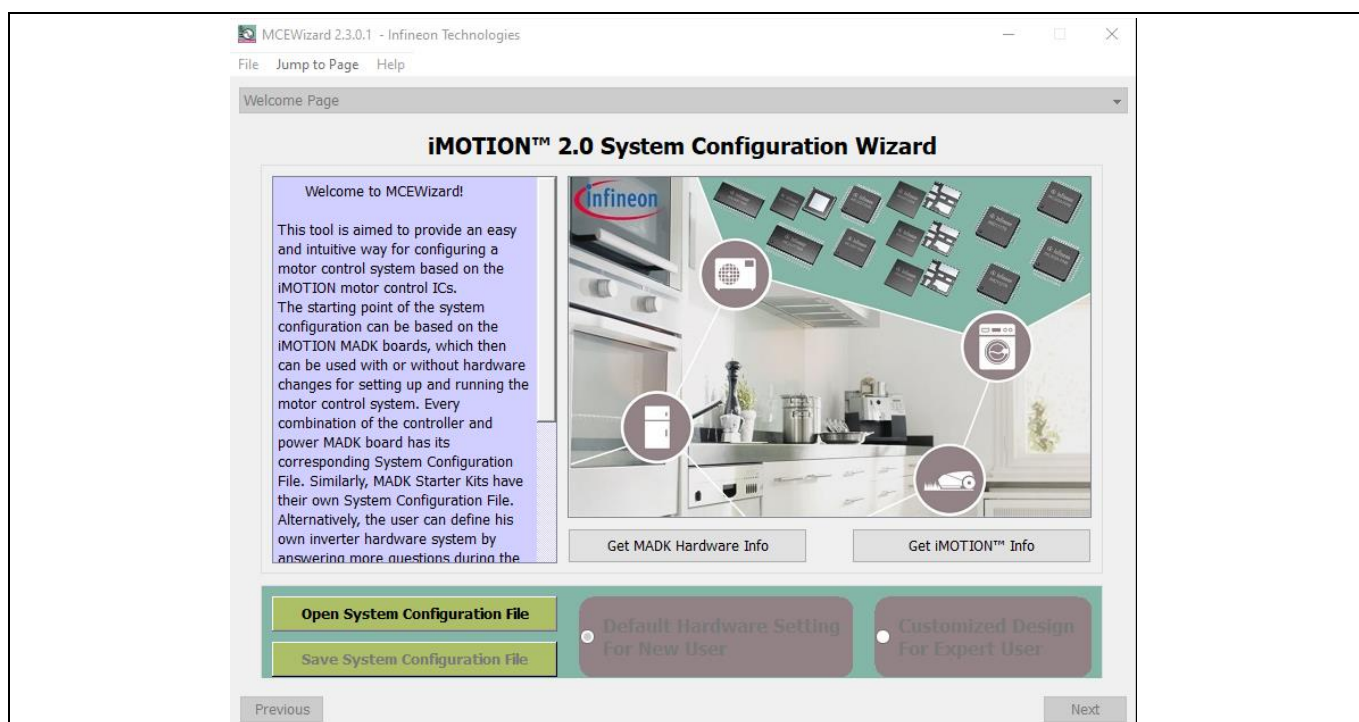

Figure 4 MCEWizard welcome page
- Double-click the MCEWizard shortcut on the Windows desktop; the MCEWizard welcome page is shown in Figure 4.